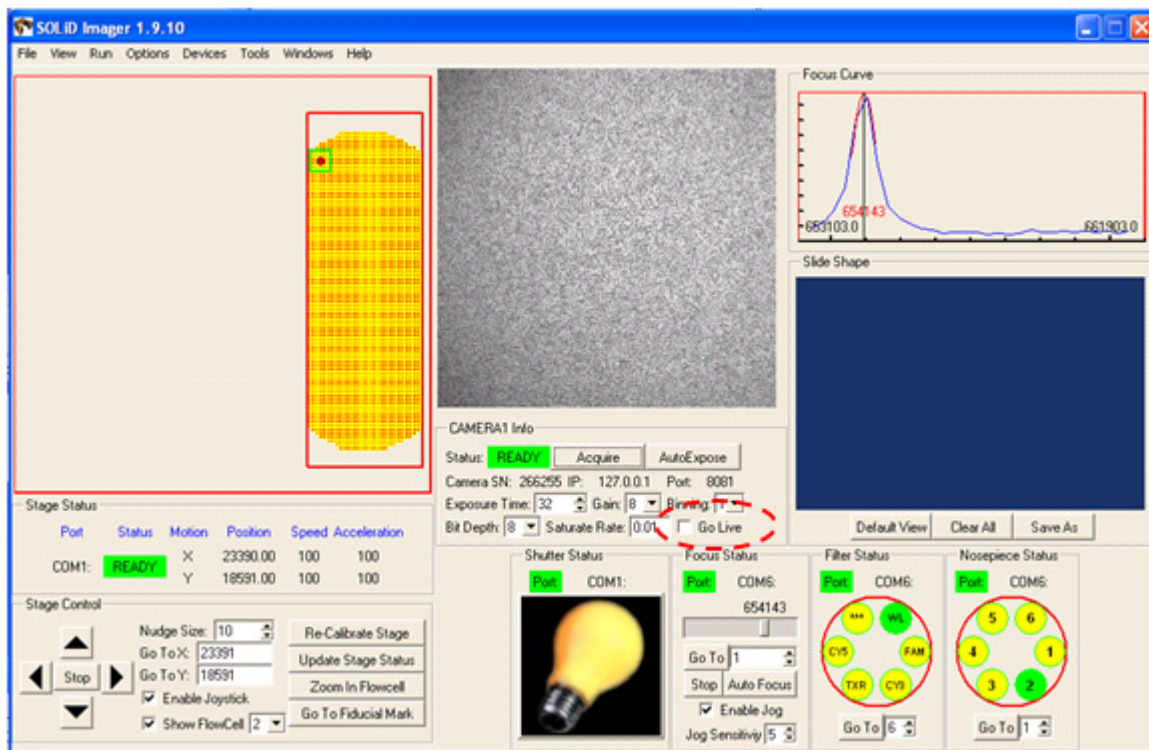

Figure 84 Check **Go Live** to manually find the focal range.
5. Check the **Go Live** check box in the Imager window. By checking the **Go Live** check box, a live image of the flowcell displays. You can use this image to manually find the focal range (see Figure 84).